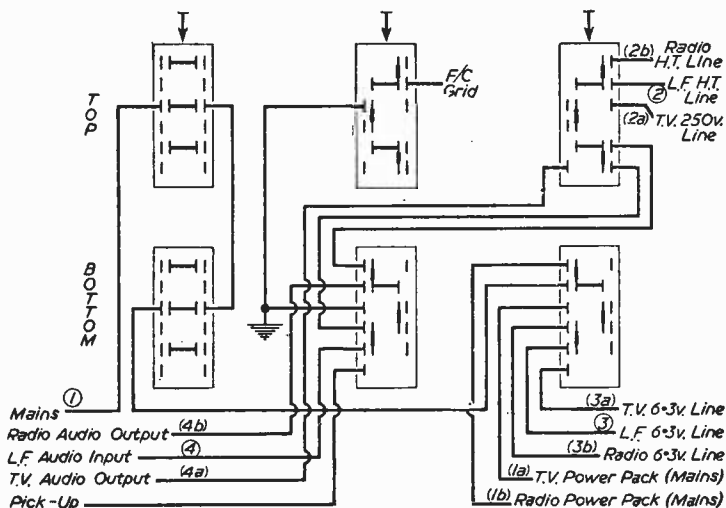

Fig. 7.—Push-button wiring arrangement.
In the system adopted, four buttons are used, labelled "off," "gram," "TV" and "radio." The "off" button has no function other than breaking the mains supply. "Gram" shorts F.C. grid and radio output to earth, and connects the pickup to L.F. audio input (4). The TV switch is the heart of the unit, making all four TV circuits in the depressed position, and all radio circuits in the released position. Fig. 7 gives the wiring diagram of the unit used by the author. The use of push buttons confers an ad-